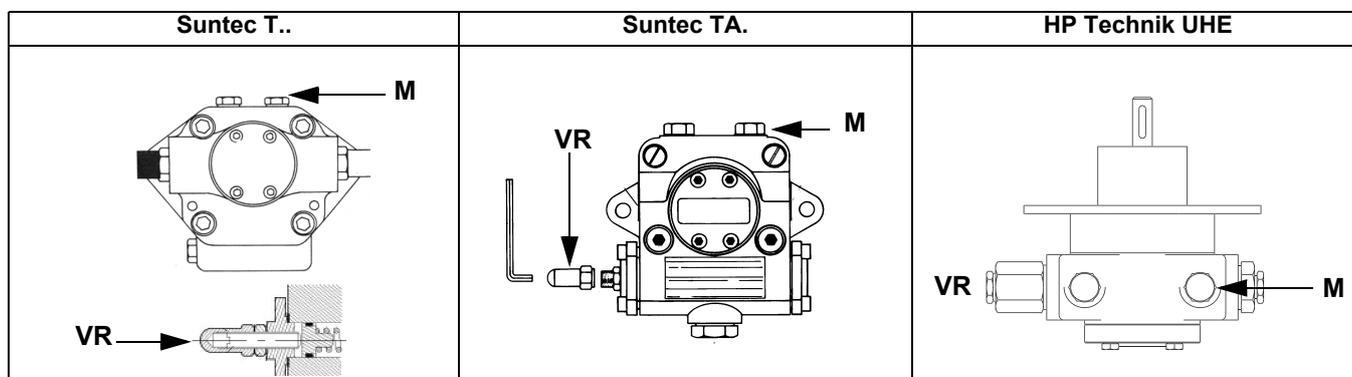

Fig. 16
- 3 bleed the air from the **M** pressure gauge port (Fig. 16) by loosening the cap without removing it, then release the contactor.
- 5 Only if necessary, adjust the supply pressure as follows (see related paragraph); insert a pressure gauge into the port shown on Fig. 17 and act on the pump adjusting screw **VR** (see Fig. 16) as to get the nozzle pressure at 20bar (Monarch or Fluidics nozzles - see page 38-38).